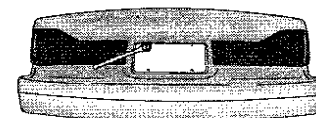

Fig.1
1. Remove the license plate bolts or screws from the rear license plate. (Fig.1)